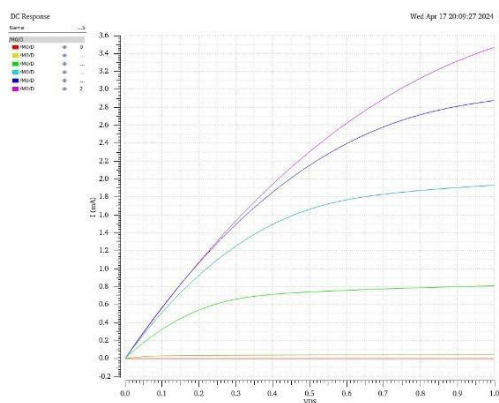

Figure 10: I/V curve for
Figure 10 is a graph showing the current (I) in microamperes (uA) versus the voltage (V) in Volts (V) for the M1-M9 regions. The x-axis ranges from 0.0 to 1.0 V, and the y-axis ranges from 0.0 to 100.0 uA. The M1-M9 regions are highlighted in green, and the M10-M12 regions are highlighted in orange. The M1-M9 regions show a sharp increase in current at low voltages, while the M10-M12 regions show a gradual increase in current across the entire voltage range.